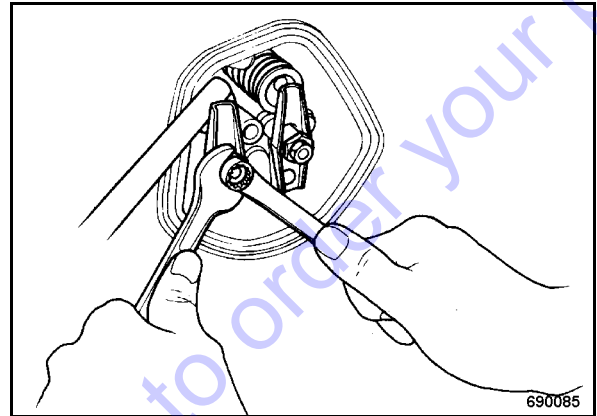

Fig. 61
- Check the valve clearance with a feeler gauge on both valves (Fig. 61).